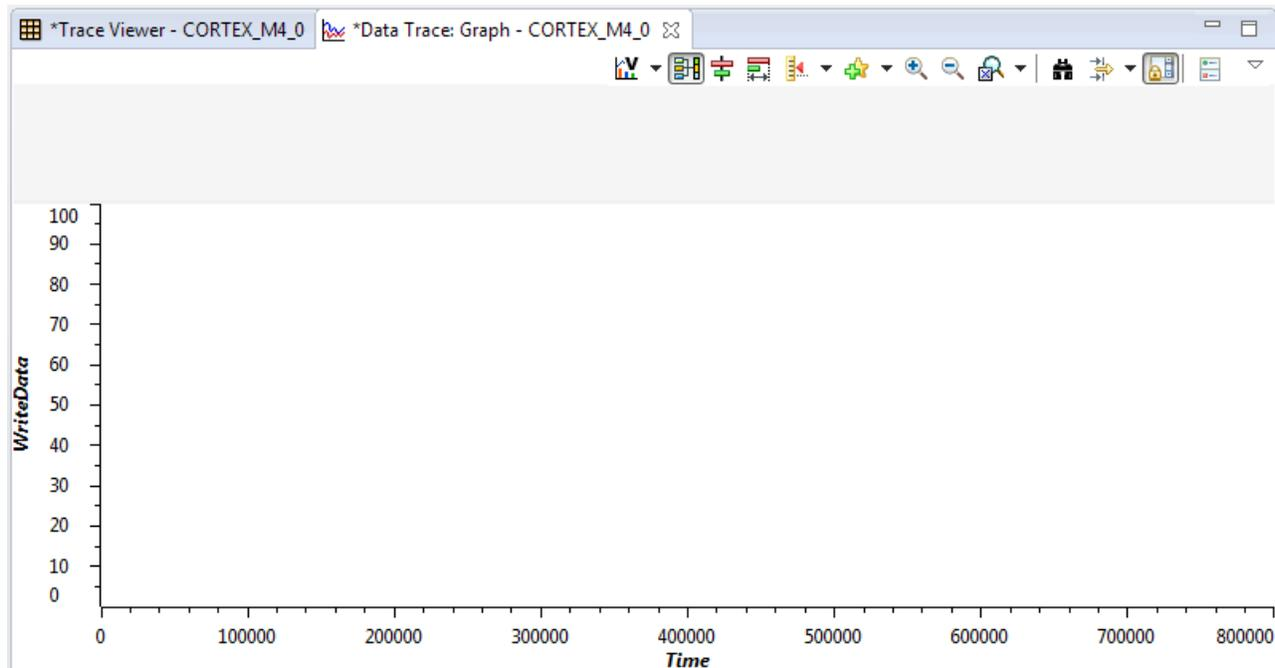

Figure 11. Data Variable Tracing Window
4. A new window appears in the bottom right corner of the debug view, as shown in Figure 11. The tab on the left traces the SWO trace output. The tab on the right is a graph of the value of the specified variable. You are now ready to run the use case.